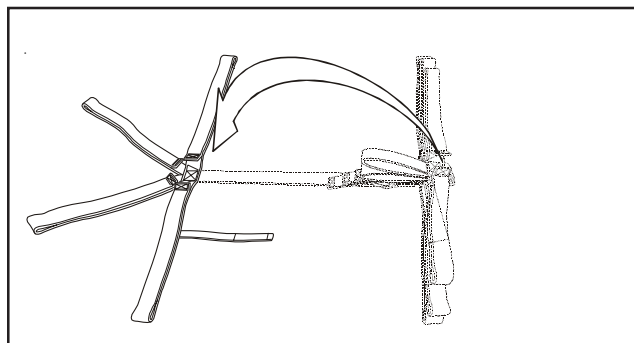

Figure 11 - Making the Third Fold
5. Stack the ankle, thigh, and pelvic straps on the orange chest strap (Figure 11).